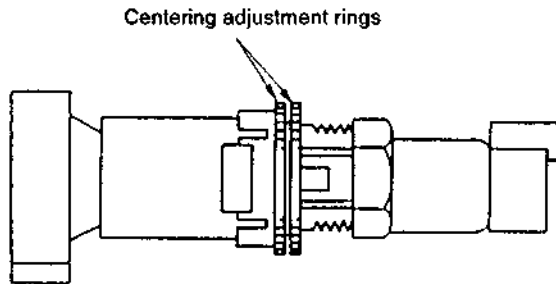

Fig. 7-50.
- 1) Turn the centering adjustment rings to provide an image with even right, left, upper and lower margins. (See Fig. 7-50.)